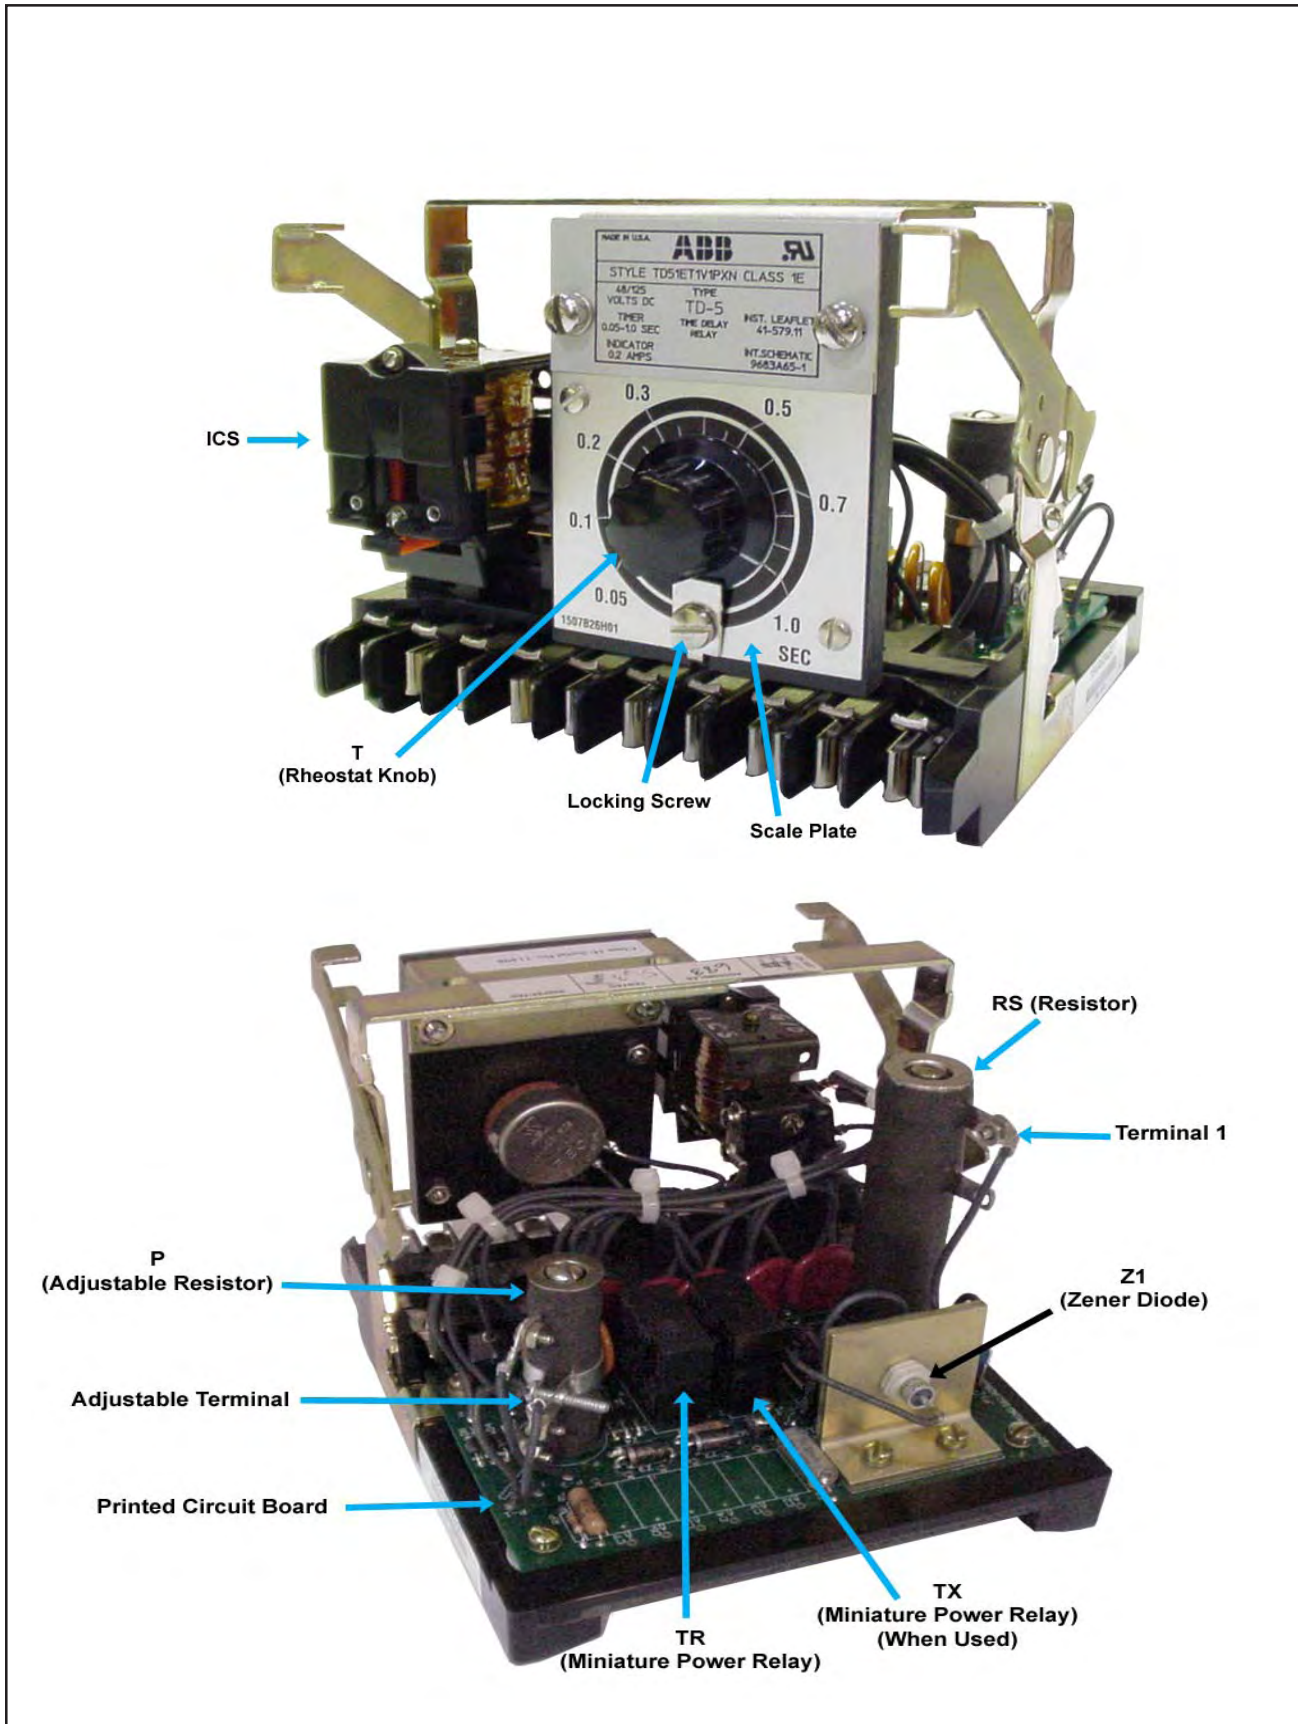

Figure 1. TD-5 Relay Front and Rear Views, Out of Case
2.3 POTENTIOMETER (P)
The potentiometer (P) is a 2 inch wire-wound adjustable resistor. (See Figure 1 respectively). The adjustable terminal on the resistor should not be loosened at any time, unless the relay is being re-calibrated.